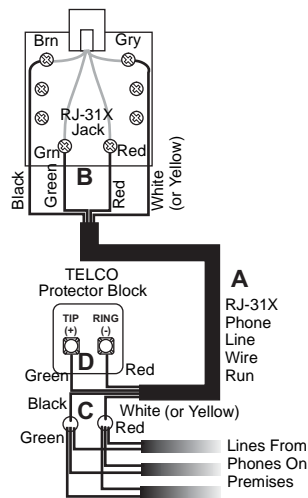

Figure 34. Installing an RJ-31X Phone Jack
1. Run a 4-conductor cable from the TELCO protector block to the jack location (see A in Figure 34).
2. Connect one end of the cable to the jack (see B in Figure 34).
3. At the TELCO protector block, remove the premises phone lines from the block and splice them to the black and white (or yellow) wires of the 4-conductor cable (see C in Figure 34).
4. Connect the green and red wires from the 4-conductor cable to the TIP (+) and RING (-) posts on the block (see D in Figure 34).